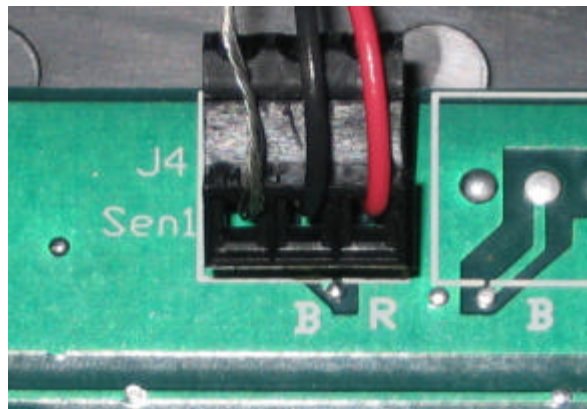

Figure 22
Connect the ribbon cable from the adjacent module to the J10 connector and if there is another module connect it to the J11 connector with another ribbon cable. Connect the transducers red wire to the (R) position of the J4 terminal block and the black wire to the (B) position. Optionally the shielding of the transducer may be connected to the remaining position on J4 used to connect the transducer shielding to ground on the board. (See Figure 22.)